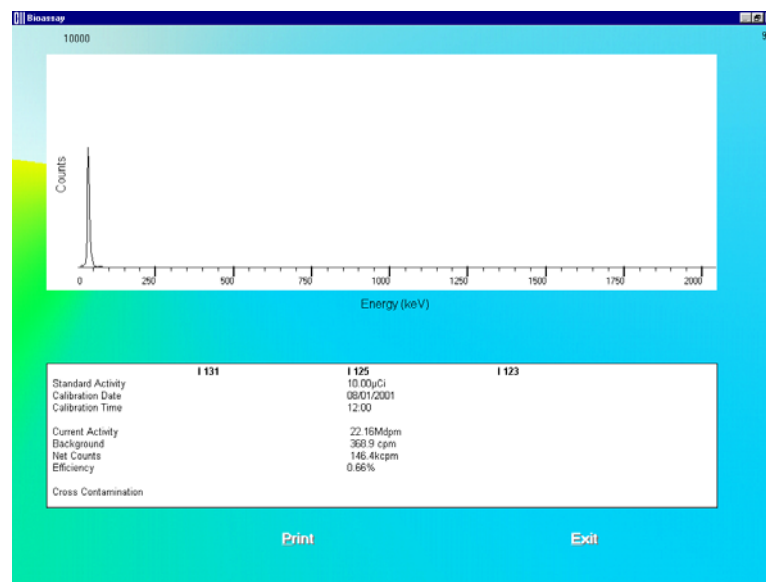

Figure 11-10
- viii. After all measurements are completed, the screen shown in Figure 11-10 will appear. The results in the lower part of the screen show all measured counts and calculated values for activity and cross contamination.